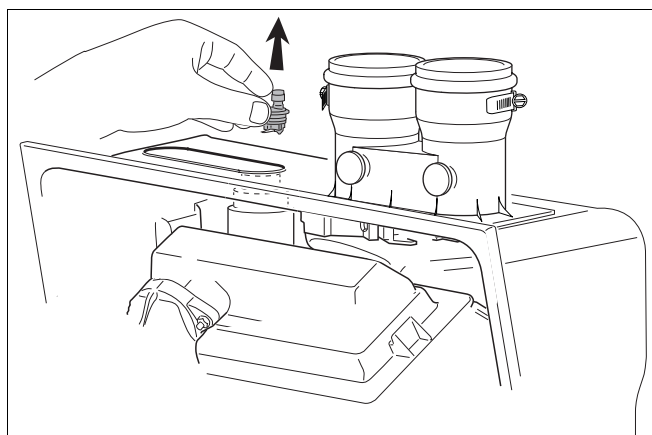

fig. 72 Dismantling the valve case for the automatic air purging system
- Dismantle the valve case by pulling it upwards through the opening in the housing (see fig. 72).